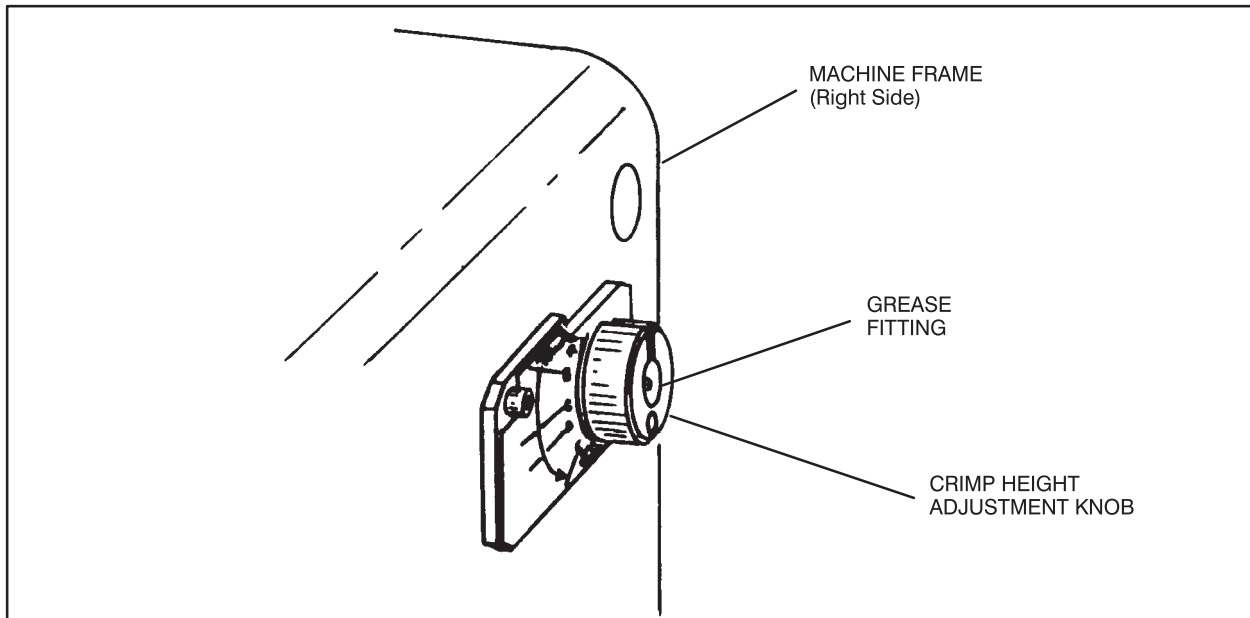

Fig. 5-1. Crimp Height Fine Adjustment
2. Increase or decrease the crimp height by turning the adjustment knob on the right side. The letter "A" produces the minimum crimp height (tightest) and the letter "F" the maximum crimp height (largest), or approximately .005 in. between letters. Refer to Figure 5-1. If, after performing several crimping test cycles manually and under power, the desired crimp height cannot be obtained, set the adjustment knob on the letter "A" and continue with Step 3.